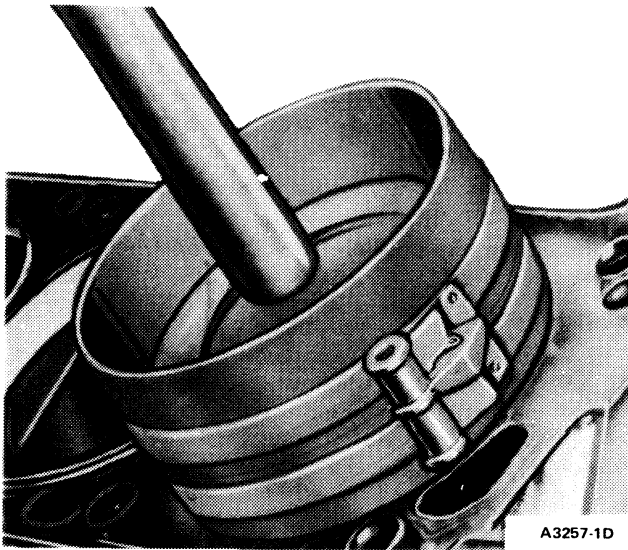

FIG. 36 Installing Piston
4. Install a piston ring compressor on the piston and push the piston in with a hammer handle until it is slightly below the top of the cylinder (Fig. 36). Be